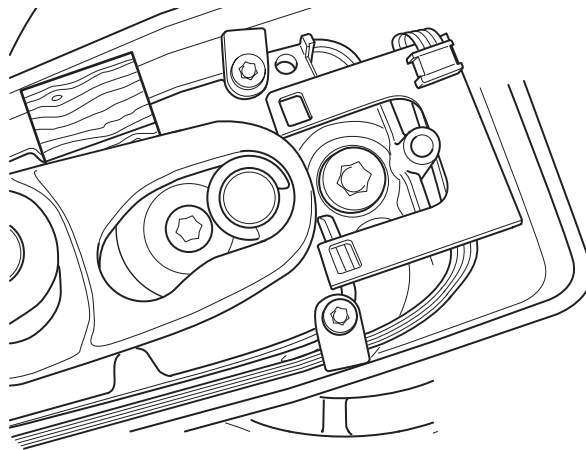

Fig. 1b
- Operate the pedal bar and bring crank in the position shown in fig. 1b.
- Support lever bearing as shown in fig. 1b.